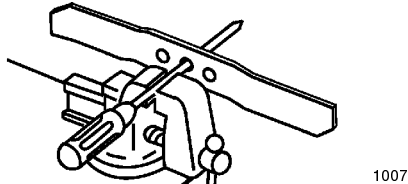

Figure 22
1. Check the balance of the blade by placing the center hole of the blade over a nail or screwdriver shank clamped horizontally in a vise (Fig. 22).